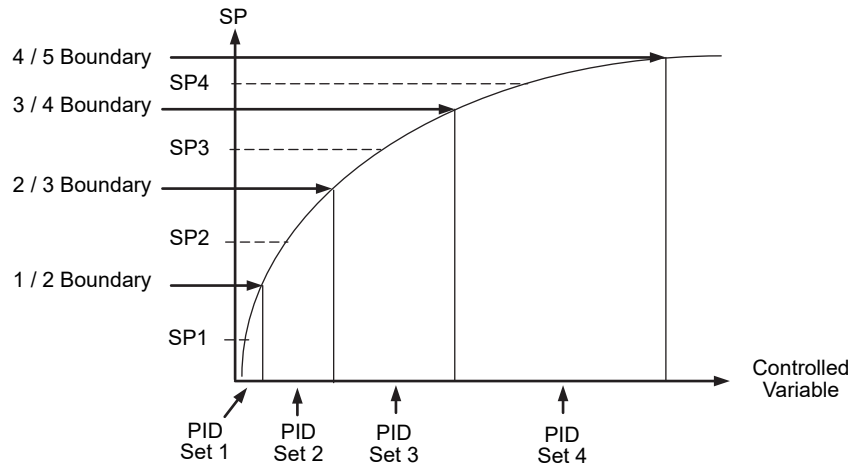

Figure 59 Gain Scheduling
9. Repeat the above for all PID sets. For each set, adjust the SP approximately midway between the two boundaries (Figure 59)